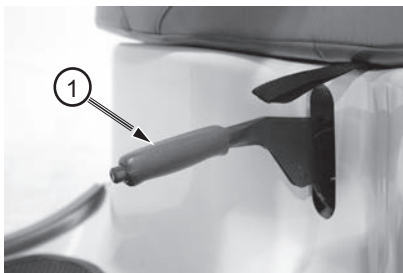

Figure 7 - Parking Brake (models e2, eS, eL, eL XD)
1. Parking Brake (models e2, eS, eL, eL XD) Figure 7